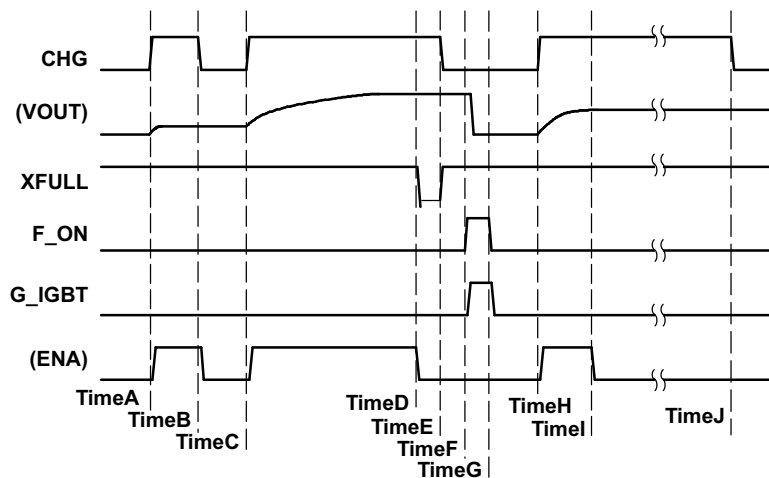

Figure 4. Whole Operation Sequence Chart
The only way to *start* charging is to input  $\text{CHG}\uparrow$  (see time A/C/H in Figure 4). Each time  $\text{CHG}\uparrow$  is applied, the TPS65560 starts charging.
1. Forced *stop* by inputting  $\text{CHG} = \text{L}$  from the controller (see timeB in Figure 4).
2. Automatic *stop* by detecting a full charge. VOUT reaches the target value (see TimeD in Figure 4).
3. Protected *stop* by detecting an over current function ( $\text{OV}_{\text{DS}}$ ) trigger at SW pin (see TimeI in Figure 4).
The device starts charging at *timeH*, and  $\text{OV}_{\text{DS}}$  protection occurs at *TimeI* (see Figure 4). At *TimeI*, XFULL stays H. At *TimeJ*, the controller detects  $\text{OV}_{\text{DS}}$  protection through the expiration of a timer ends and then sets CHG to low to terminate the operation.
The TPS65560 provides an overvoltage monitor function of the SW pin. The TPS65560 is latched off if the voltage on the SW pin is above  $OV_{DS}$  during the switch ON time (see Figure 4 and its descriptions).